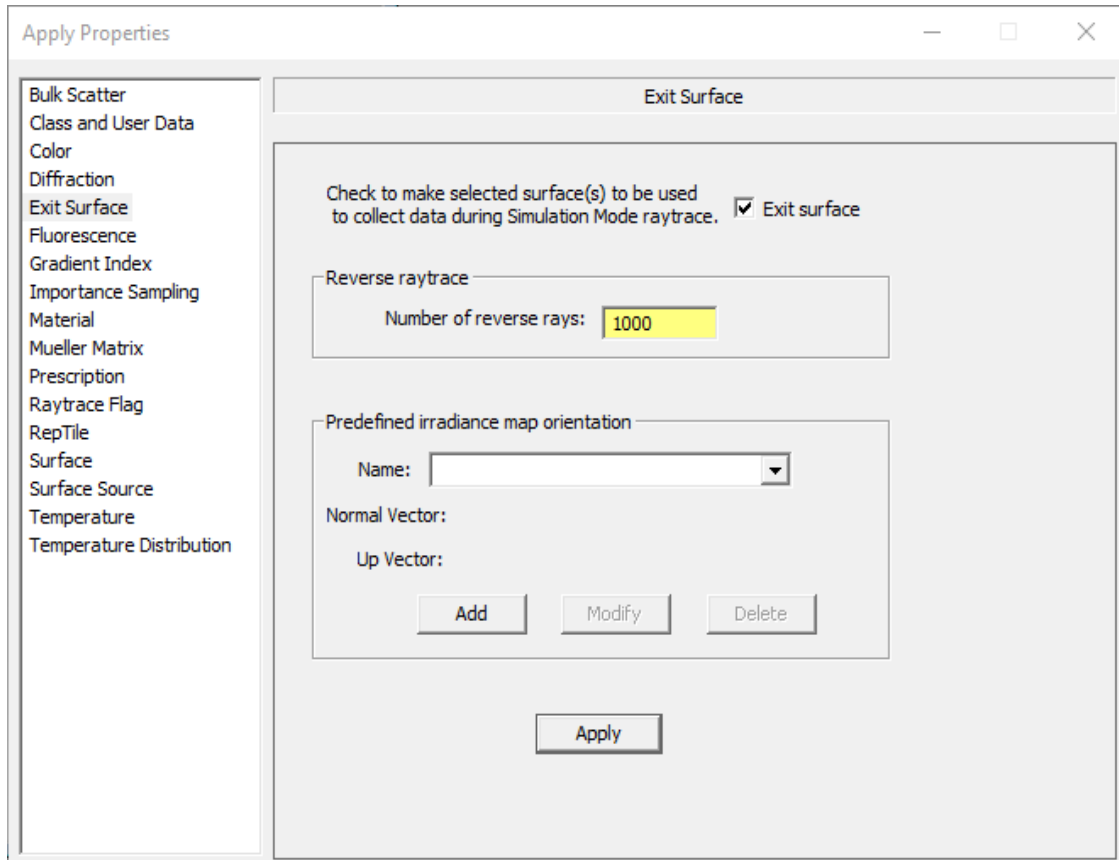

FIGURE 9.55 - Apply Properties dialog box showing the exit surface defined. 1000 reverse rays have been applied to the exit surface.
Using the EllipticalReflector_Reverse.oml model, select the **Observation disk:Front** surface and then select **Define|Apply Properties** to open the **Apply Properties** dialog box. Select the **Exit Surface** tab, check the *Exit surface* checkbox, and enter 1000 for the *Number of reverse rays*, as shown in Figure 9.55. Click *Apply* to apply the setting to the surface.
4. Setting the number of Reverse Rays on the Front surface as in Figure 9.55 on page 9.53.